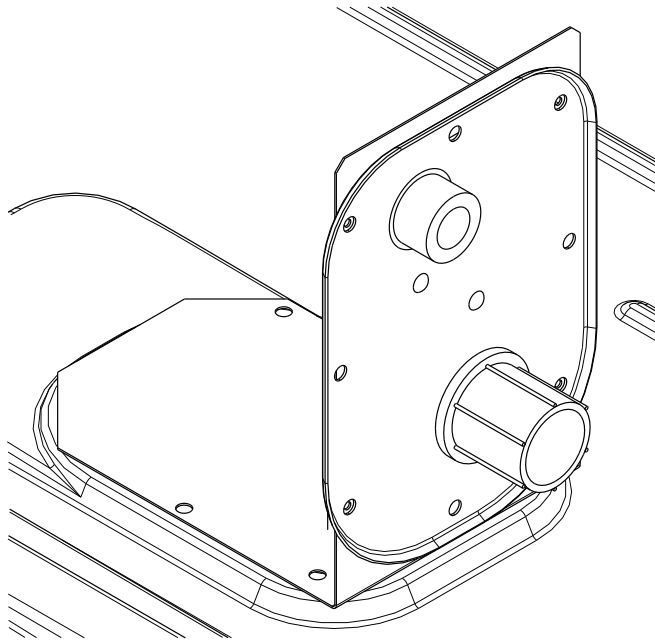
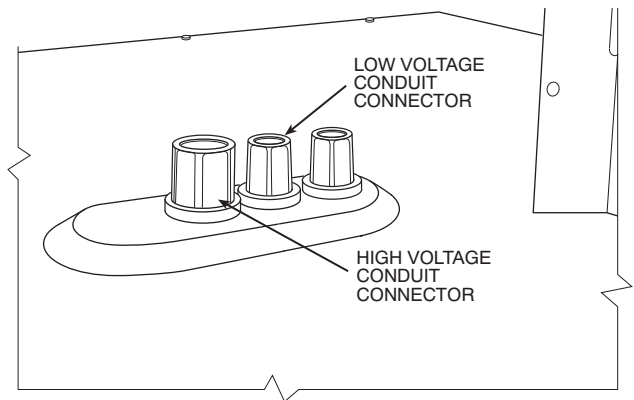

Fig. 31 — Thru-the-Base Fitting Assembly (Shown in Shipping Position)
Fig. 32 — Thru-Base Connection Fittings (Units Built Prior to 4/15/2019)
This service connection kit consists of a $\frac{1}{2}$ -in. electrical bulkhead connector and a $\frac{3}{4}$ -in. electrical bulkhead connector, connected to an “L” bracket covering the embossed (raised) section of the unit basepan in the condenser section (see Fig. 31 for shipping position). The $\frac{3}{4}$ -in. bulkhead connector enables the low-voltage control wires to pass through the basepan. The $\frac{1}{2}$ -in. bulkhead connector allows the high-voltage power wires to pass through the basepan. See Fig. 32 and 33.
3. Place the gasket over the embossed area in the basepan, aligning the holes in the gasket to the holes in the basepan. See Fig. 31.